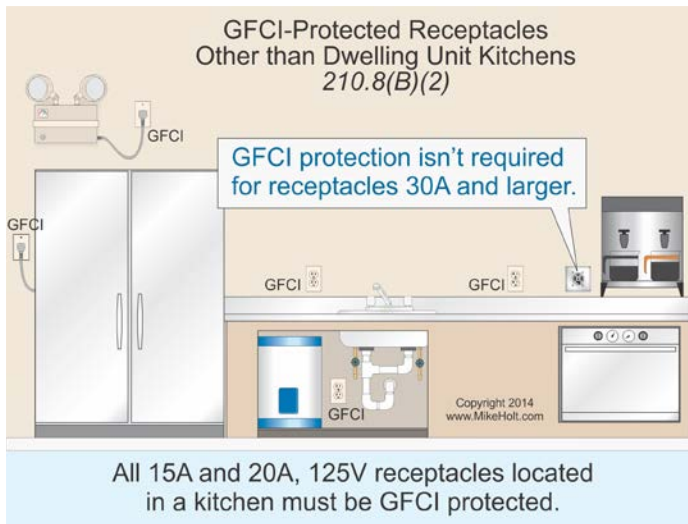

Figure 210-36
(2) Kitchens. All 15A and 20A, 125V receptacles installed in a kitchen, even those that don't supply the countertop surface, must be GFCI protected. *Figure 210-36*